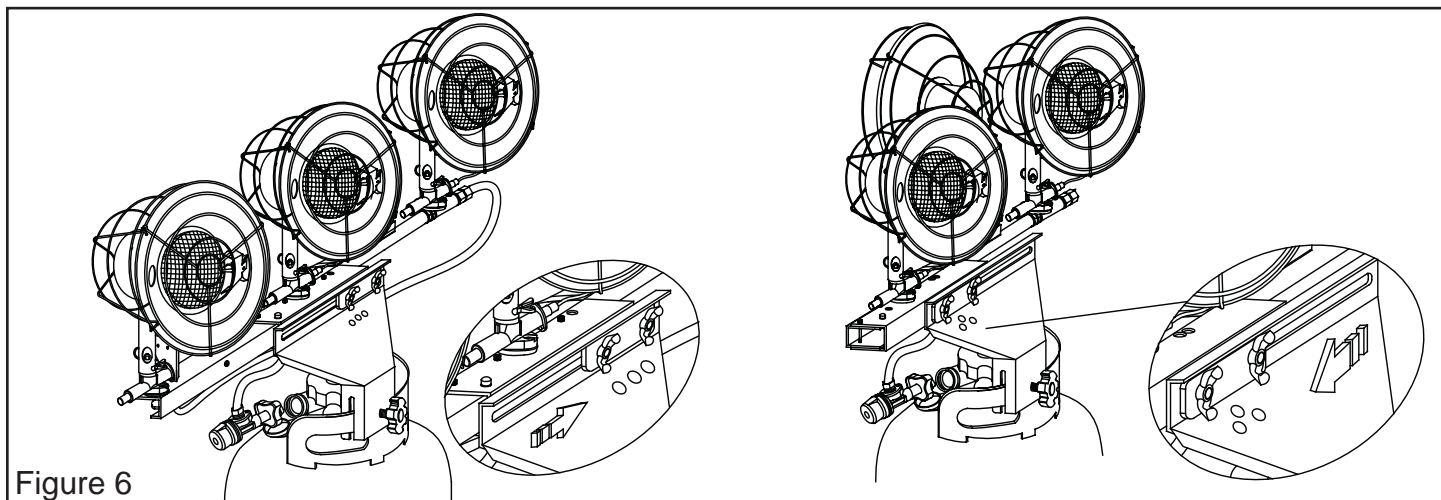

Figure 6
4. See Figure 6 on page 7 for determining burner position options.
- To have all 3 burners face front, plane washer should be to the right side of tank collar bracket. (See Figure 6)
- To have far left burner face back, plane washer should be to the left side of tank collar bracket. (See Figure 6)